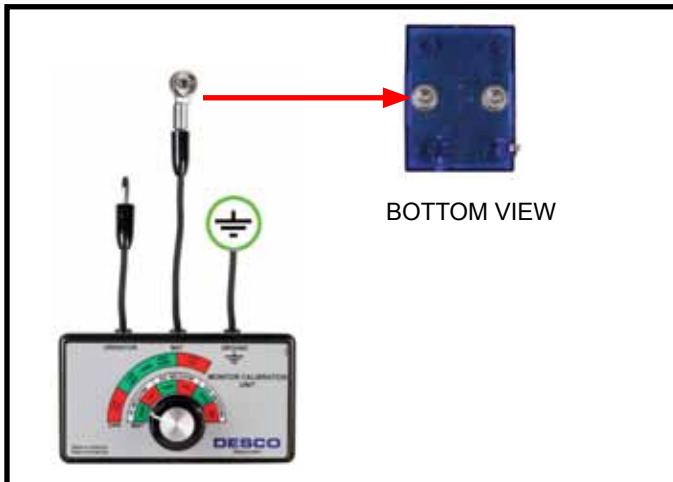

Figure 7. Connecting the MAT test lead from the Monitor Calibration Unit to the Jewel® Workstation Continuous Mini Monitor
Step 2: Connect the included stacking snap to the banana plug labeled “MAT” on the Calibration Unit. Detach the monitor from its mat connection and re-install the snap located underneath the LEDs to the Calibration Unit’s stacking snap (see Figure 7).